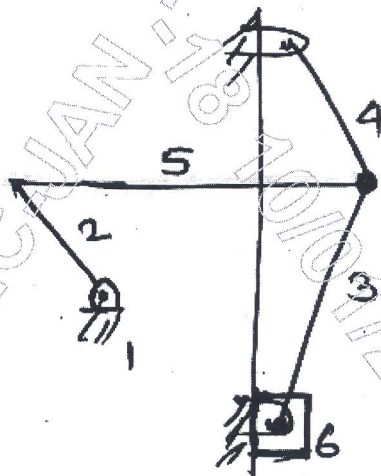

Fig.Q1(b)
- b. Calculate mobility of mechanism as shown in Fig.Q1(b).